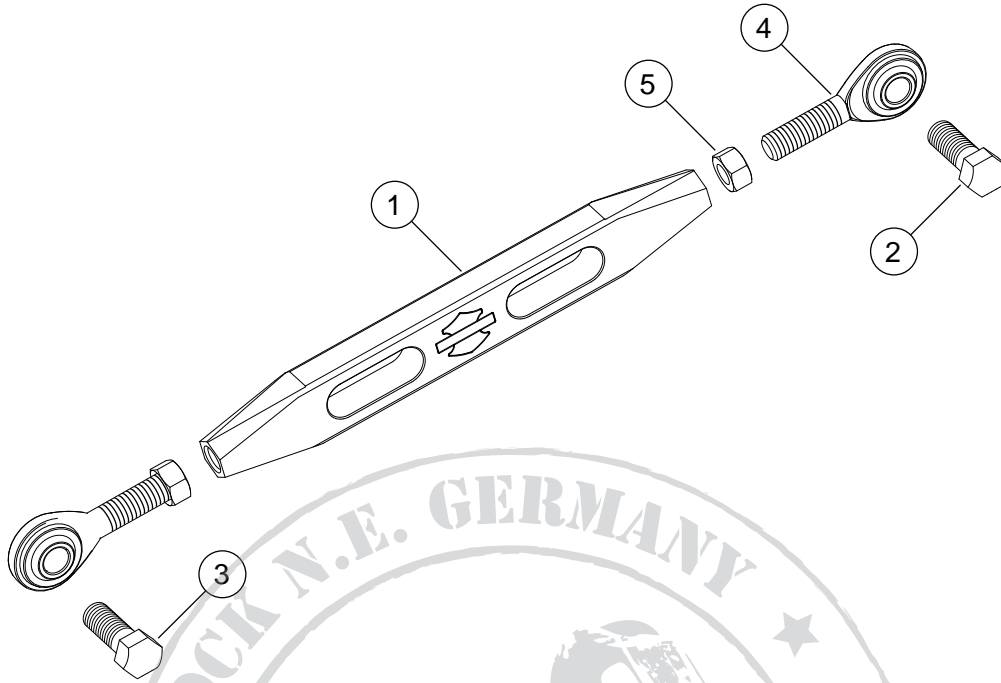

Figure 2. Service Parts: Sportster Aluminum Shift Linkage Kits (Slotted Linkage Shown)
See Figure 2 and Table 2.
2. See Figure 2 and Table 2. Loosen the lock nuts (5) and turn the rod ends on the new aluminum shifter rod (1) to match the length of the stock shifter rod.
3. See Figure 2 and Table 2. Slide longer capscrew (3) through the front rod end of new shifter rod (1). Place rod